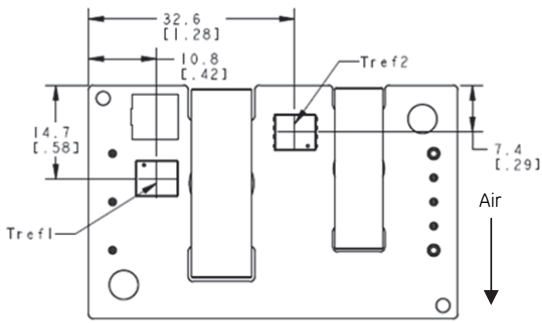

Figure 13. Tref Temperature Measurement Location for open frame version.
To provide protection under certain fault conditions, the unit is equipped with a thermal shutdown circuit. The unit will shutdown if the thermal reference point  $T_{ref}$  (Figure 13), exceeds 135°C (typical), but the thermal shutdown is not intended as a guarantee that the unit will survive temperatures beyond its rating. The module will automatically restart upon cool-down to a safe temperature.
The thermal reference points,  $T_{ref1}$ , and  $T_{ref2}$  used in the specifications for open frame modules are shown in Figure 13. For reliable operation these temperatures should not exceed 124 °C & 124 °C respectively